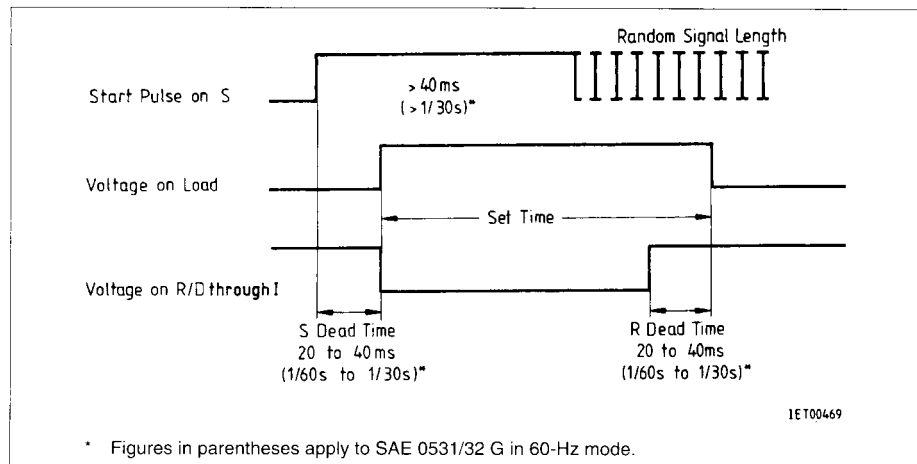

Figure 1
1. Turn-on interval DIN 46120 (figure 1)
Start of Time Measurement (Figure 1, 2)
Inputs N, S, R, FC, A, B, C (and CO) * have an internal pullup resistor, i.e. they are high if not wired. On start input S there are also clamping diodes to V_s and GND so that it is possible to start with external potential. Reset input R is usually connected to one or more of the open-collector outputs D through I, enabling cutout of the load and resetting of the counter when the set delay has elapsed. These outputs are turned off ($R = H$) in their basic state (after reset), conduct when the time measurement starts ($R = L$) and are turned off again ($R = H$) after the delay (**see Figure 1 and 2**).